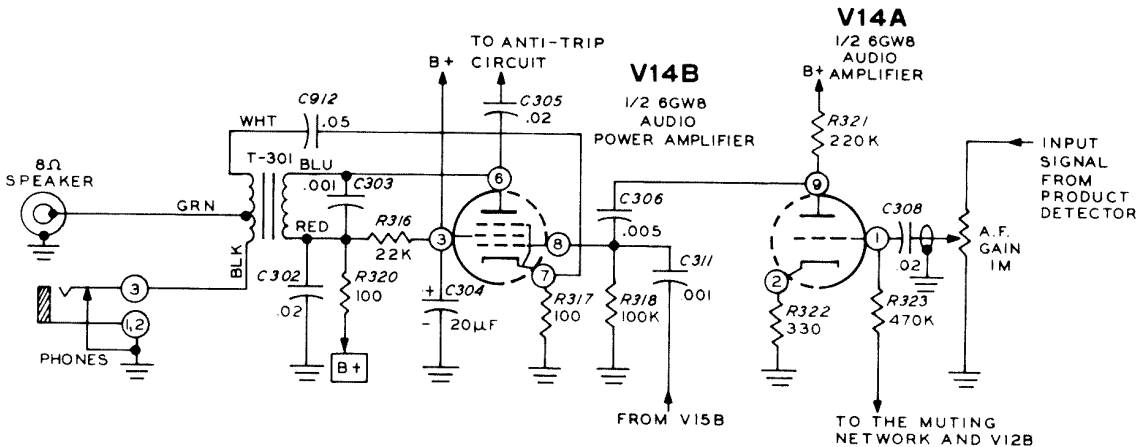

Figure 2-26
**AUDIO AND POWER AMPLIFIER (Figure 2-26)**